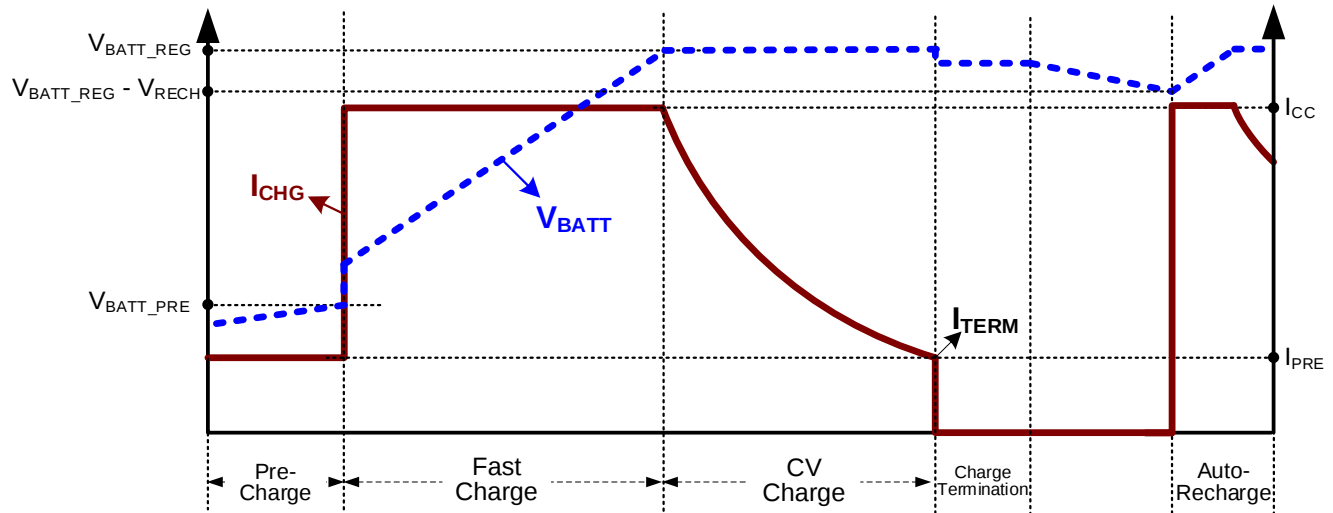

Figure 5: Battery Charge Profile
The MP2710 provides three main charging phases: pre-charge (PRE.C), fast-current (CC) charge, and constant-voltage (CV) charge (see Figure 5 on page 18).